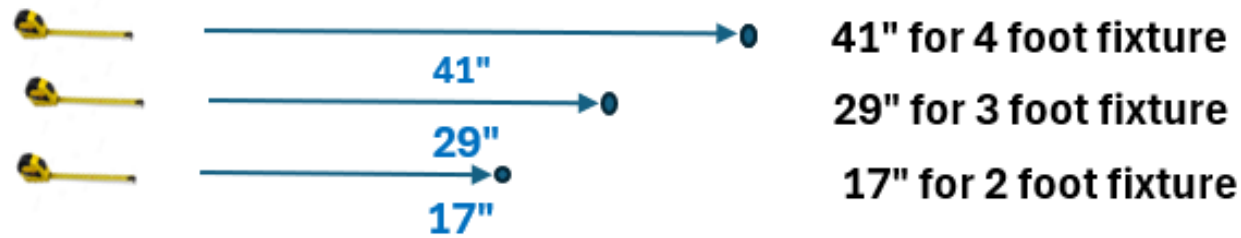

Figure 11
STEP 12 For the last fixture in the linear run, from the previous fixtures last hole marked (D, F, or H), for the required fixture length, measure out the noted length for the required last fixture and add a mark (see Figure 11 below)